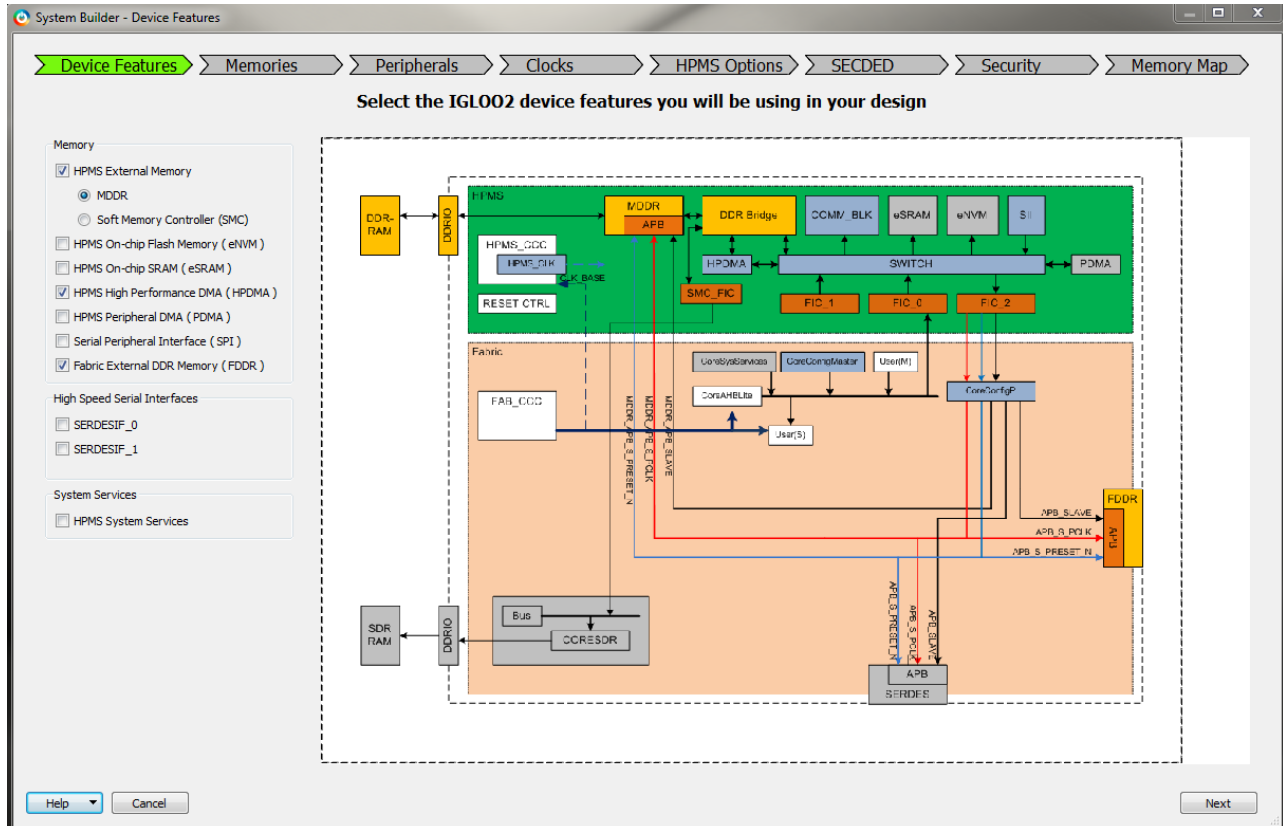

Figure 3 • System Builder Device Features Page
1. In the **Device Features** page (Figure 3), specify which DDR controllers are used in your design.
In the Device Features page, specify which DDR controllers (MDDR and/or FDDR) are used in your design (Figure 3). You can also choose to use HPDMA for memory transfers between MDDR and eNVM / eSRAM / fabric logic via FIC0/1, in this page.